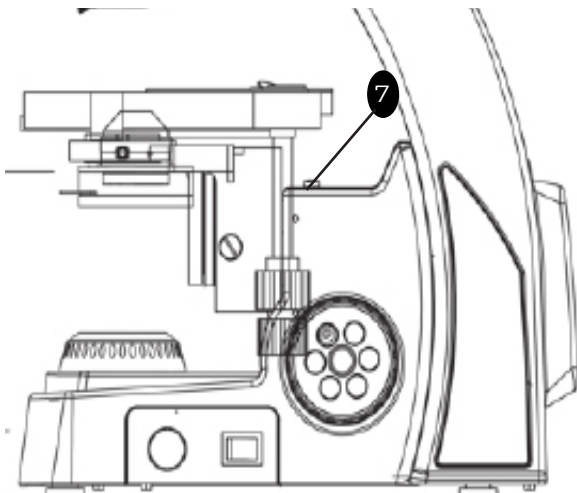

Fig. 8
4. Lock the limit screw **7** (See Fig. 8).